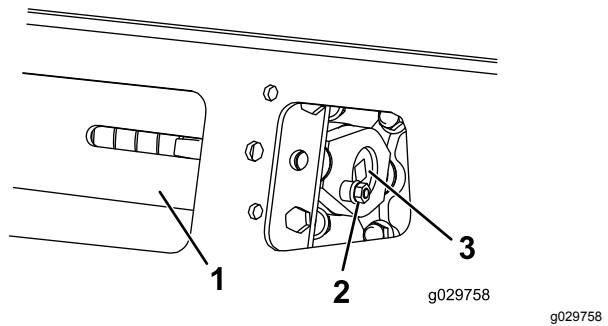
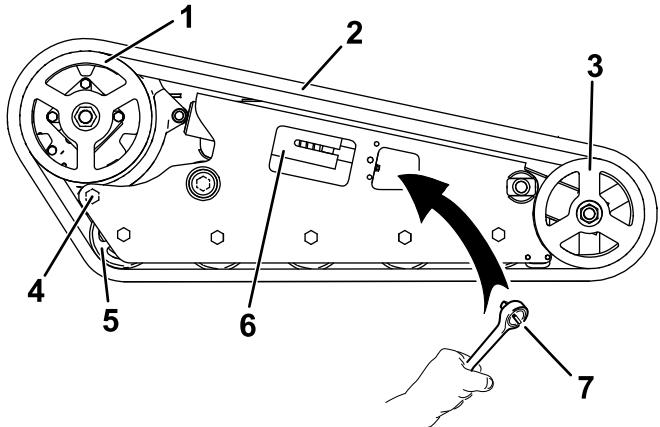

Figure 58
Figure 59
4. Remove the locking bolt and nut (Figure 58).
6. Align the closest notch in the tension screw to the locking-bolt hole and secure the screw with the locking bolt and nut (Figure 58).
5. Using a 1/2-inch drive ratchet, release the drive tension by turning the tensioning screw clockwise (Figure 58 and Figure 59).
6. Loosen the rear bolt, near the drive wheel (Figure 59).
8. When the track is off the front wheel, remove it from the drive sprocket and road wheels (Figure 59).
lugs on the track fit between the spacers on the sprocket (Figure 59).
- Push the track under and between the road wheels (Figure 59).
- Using a 1/2 inch drive ratchet, turn the tensioning screw counter-clockwise until the tensioning screw bottoms out (Figure 58).
- Remove the locking bolt and nut (Figure 58).
- Using a 1/2-inch drive ratchet, release the drive tension by turning the tensioning screw clockwise (Figure 58 and Figure 59).
- Loosen the rear bolt, near the drive wheel (Figure 59).